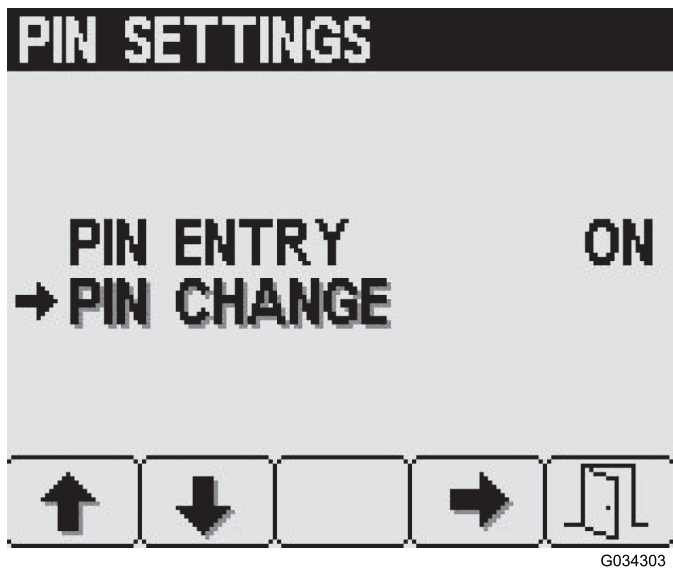

Figure 17
3. From the PIN Settings screen, press button 2 until you reach PIN Change, then press button 4 to select PIN Change (Figure 17).